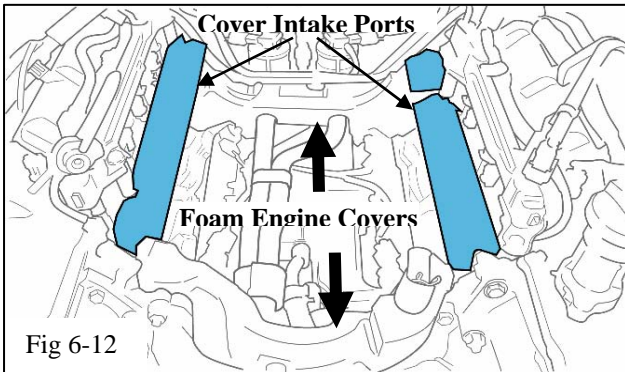

Fig 6-12
- ⚠ (m) Clean and cover the intake ports to prevent debris from entering the engine and then remove and discard the 2 foam engine covers that are under the intake manifold (Fig 6-12). Blow away any debris that may be in the engine valley.